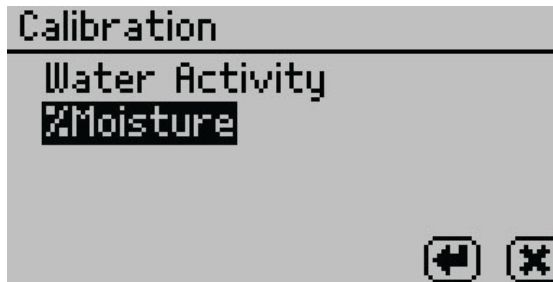

Figure 21 List of calibration types
3. Select %Moisture from the list of calibration types (Figure 21).